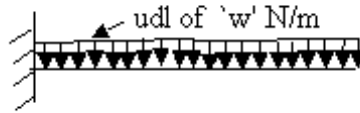

Figure 4:
- (b) Calculate the maximum deflection in a cantilever beam, subjected to uniformly distributed load 'w', by any one of the weighted residual methods. Shown in Figure 4. [6+10]